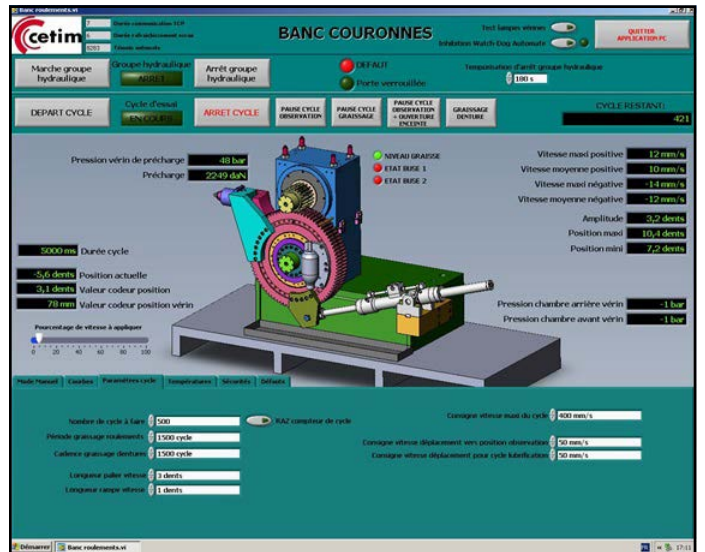

Figure 5 Man Machine Interface (MMI) of test bench.
To complete the test bench, a *Man Machine Interface (MMI)* (see Figure 5) has been developed with *Labview (NI)* in order to set up the parameters for each test and also to control the real motion law applied on the dynamic jack.